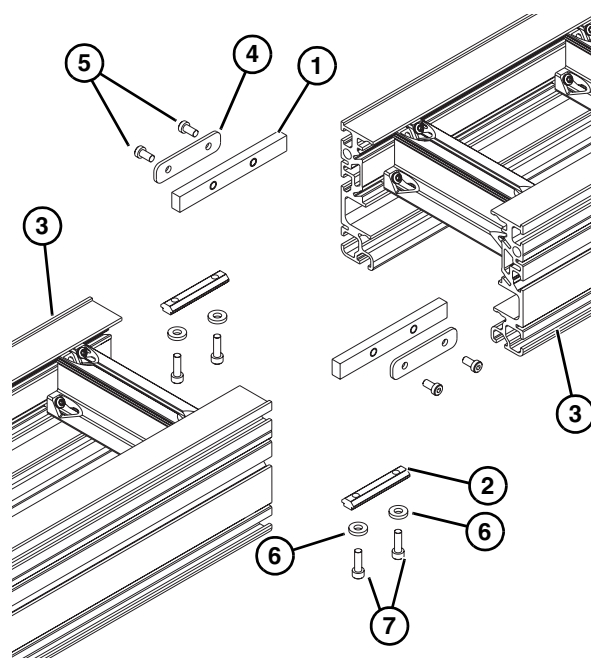

Figure 4
Typical Connecting Components (Figure 4)
1. Install two bar frame connectors (Figure 4, item 1) and two drop-in tee bars (Figure 4, item 2) into one conveyor section (Figure 4, item 3).
2. Join both conveyor sections, and install plate frame connectors (Figure 4, item 4), and secure with M6x12 low head cap screws (Figure 4, item 5) on both sides. Tighten cap screws to 60 in-lb (7 Nm).
3. Install washers (Figure 4, item 6) and M6x20 socket head screws (Figure 4, item 7) into drop-in tee bar (Figure 4, item 2) on both sides as indicated. (Do not tighten hardware. This is for stand installation.)